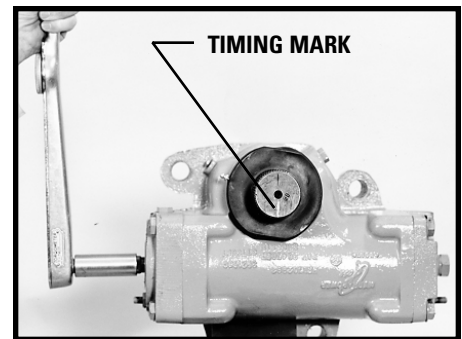

Figure 161
1. To center the steering gear, rotate worm shaft/input shaft (16) until the timing mark on the end of sector shaft (48) is perpendicular to the worm shaft/input shaft. SEE FIGURE 161. A 12 point box end or socket wrench required.